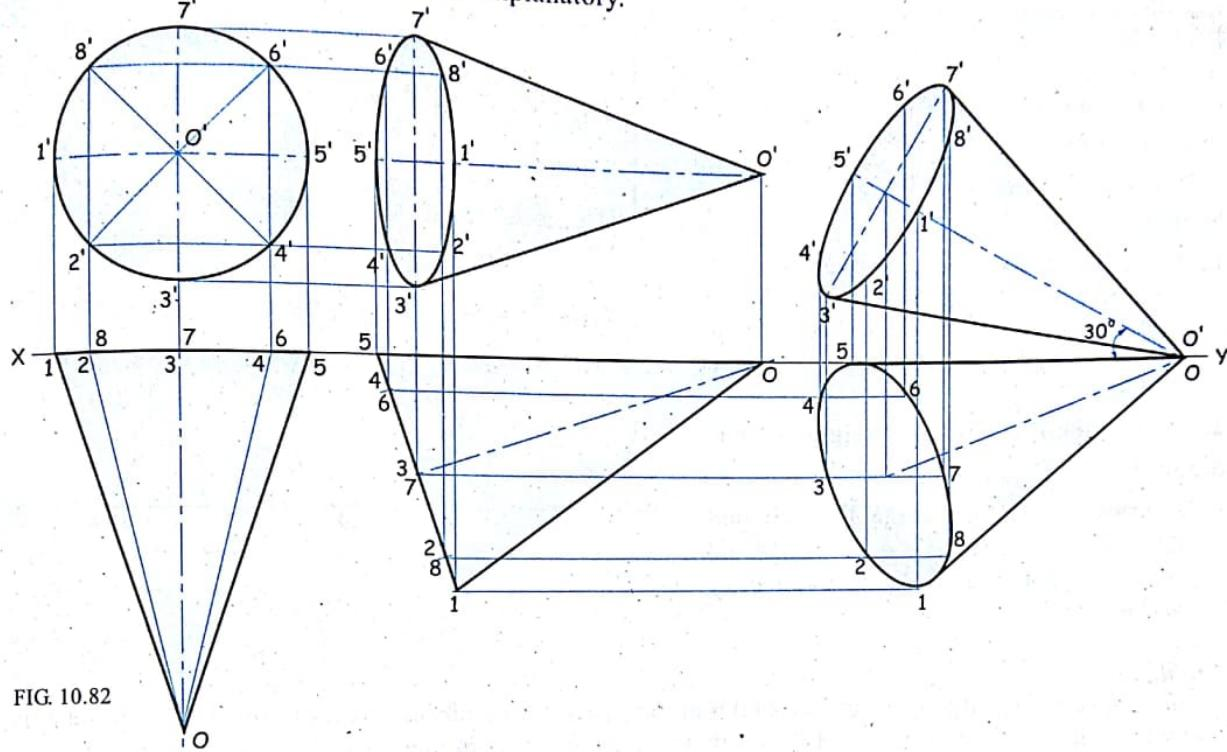

FIG. 10.82
**Solution :** Refer figure 10.82. It is self explanatory.